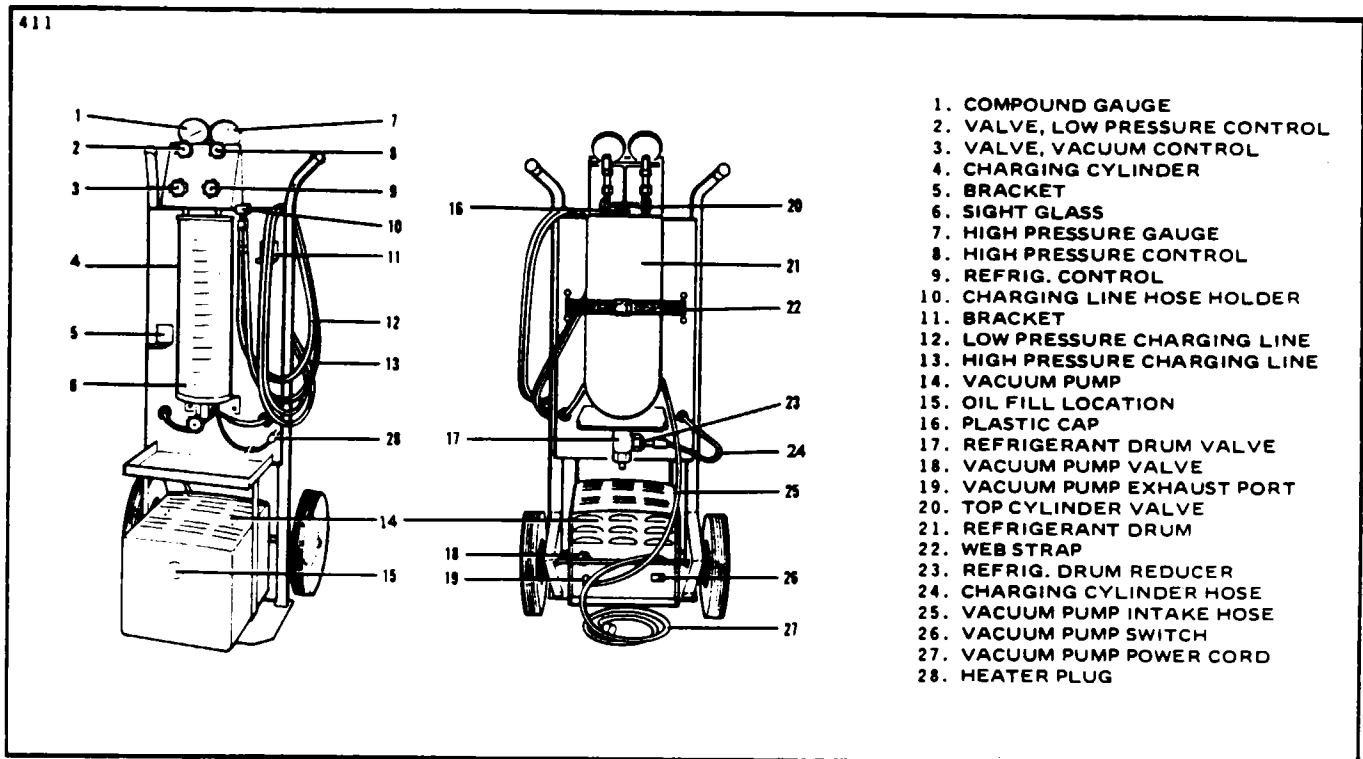

Figure 14-37. Charging Stand
Applies to Kent Moor J8393-02 or similar charging station. Use Refrigerant 12. (Refer to Figure 14-37.)
3. Remove exhaust port cap and open valve on pump. Turn on pump and open the low and high pressure and vacuum control valves on the charging station. (Refer to Figure 14-37.)